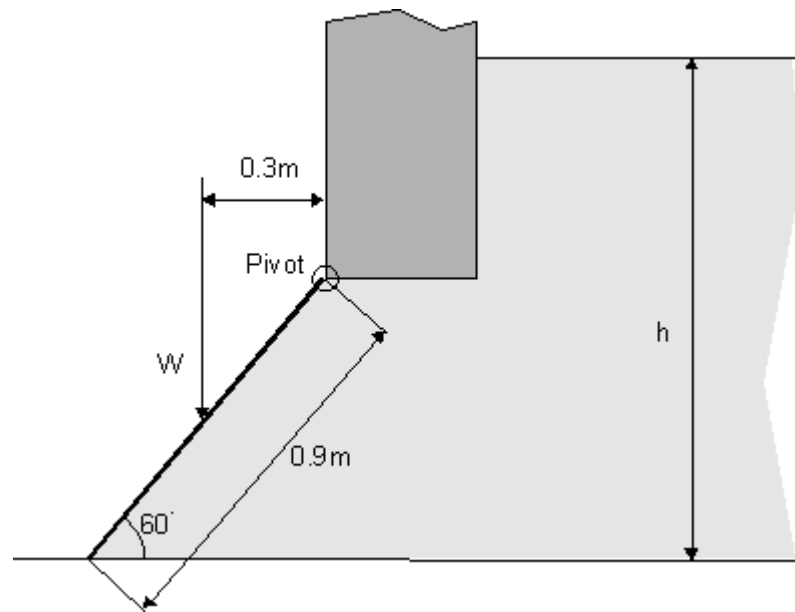

Figure 1
1. A rectangular sluice gate is fitted at the base of a reservoir wall with a pivot in the arrangement shown in Figure 1. The gate is designed to regulate the level of water in the reservoir by opening when the water level to the right, h , reaches a certain depth. The gate has a width of 1.2m and its centre of gravity is 0.3m from the wall.